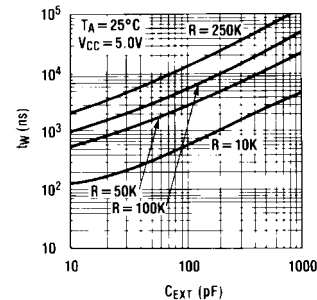

FIGURE 3.
5. For  $C_X < 1000$  pF see Figure 3 for  $t_W$  vs.  $C_X$  family curves with  $R_X$  as a parameter: